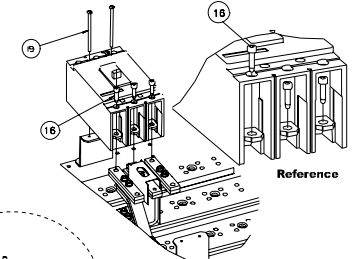

Figure 8
9. Reference fig. 8 - Install a circuit breaker by inserting one 10-24 socket head cap screw (item 16) into each of the three contacts on the line side of the breaker and into the 0.173" diameter holes in the phase links on the A, B and C-phase. Torque all connections to the values as specified on the rear of the deadfront. Insert two 8-32 screws (item 19) through the two breaker mounting holes on the load side and into the two tapped holes in the mounting bracket and tighten securely.